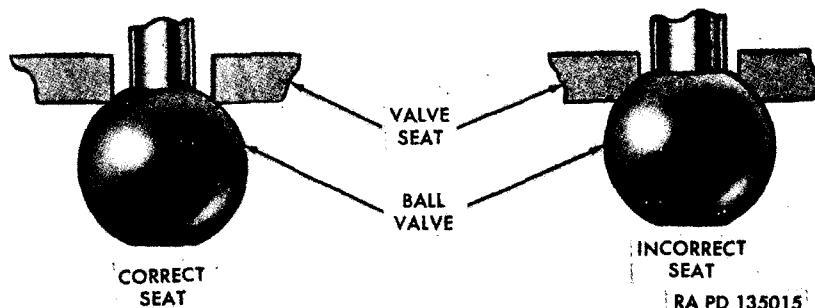

Figure 94. Correct and incorrect valve seats.
(a) Inspection. Carefully inspect both diaphragms to be sure they are not bent or distorted in any way. If ridges or cracks are found, the diaphragms must be replaced. Inspect condition of exhaust valve seat (fig. 94) and if seat is worn or damaged, it must be replaced. If the spring is damaged in any way, the complete pressure-regulating-spring-and-diaphragm assembly must be replaced.
(5) *Inlet-and-exhaust valve assembly.* Inspect assembly for broken spring and worn or damaged seat. If seat is damaged or noticeably worn, as shown on figure 94, assembly must be replaced.